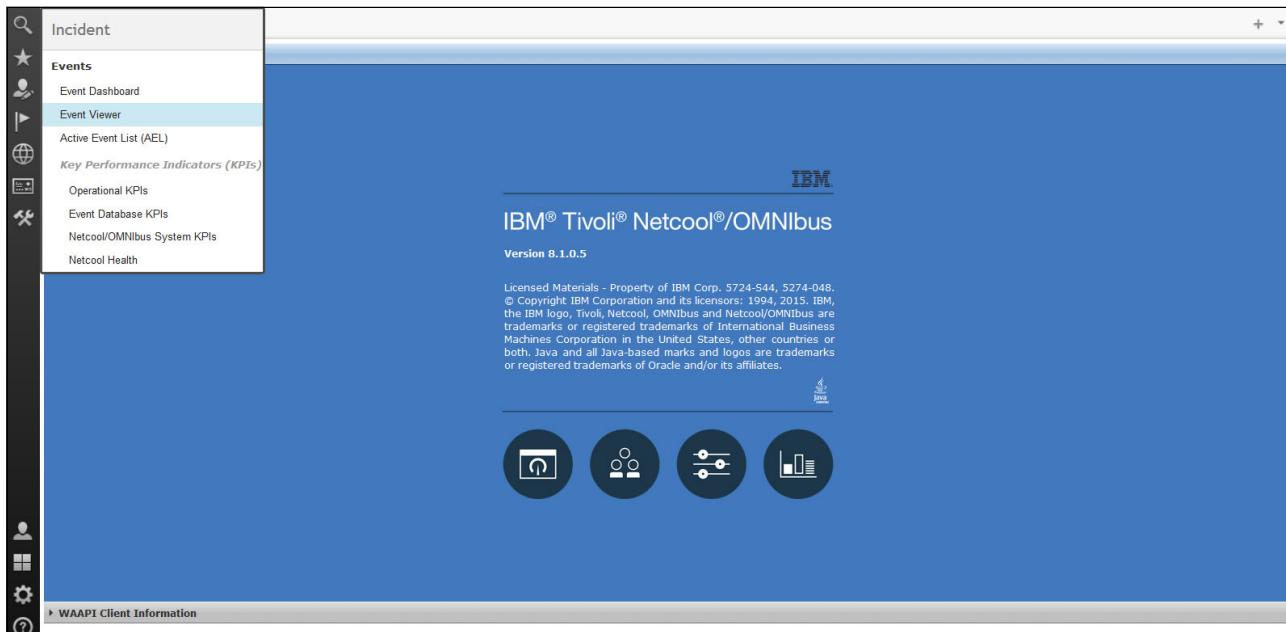

Figure 8-2 Opening the Event Viewer
2. He selects the **Event Viewer** from the menu on the left side, as shown in Figure 8-2 on page 148.